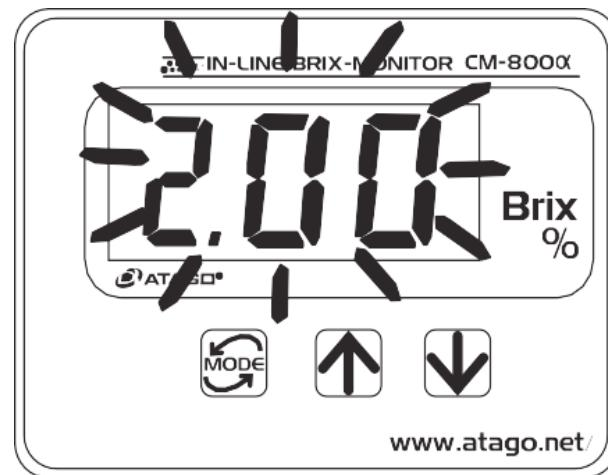

Figure 13-2
4. Press the  key. The temperature correction factor will blink on the display (Fig. 13-2).